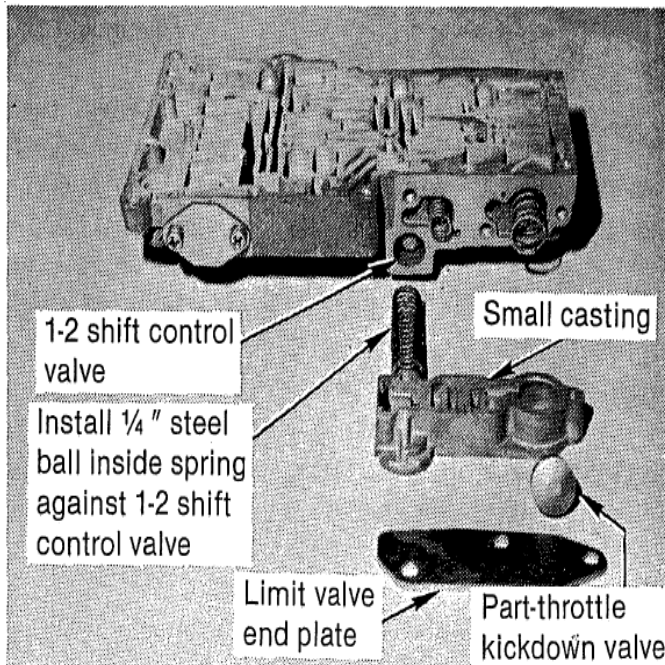

FIGURE 9
STEP 9. Remove three long screws and remove the limit valve end plate and small casting (See Fig. 9). Hold your hand on the end plate while removing the last screw so the three small springs underneath do not fly out and get lost. Install the 1/4" steel ball supplied with the kit into the 1-2 shift control valve bore inside the 1-2 shift control valve spring.